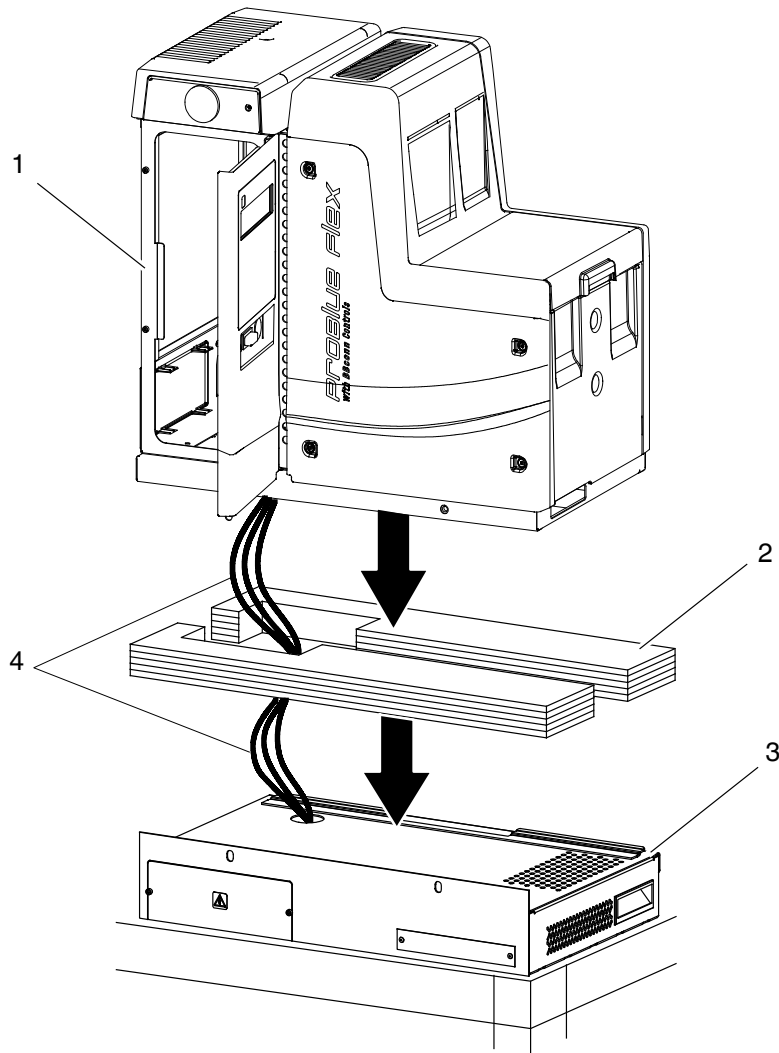

Figure F-13 Mounting the melter to the transformer
1. Position the two side spacers retained from the transformer shipping container on the installed transformer. Maintain the orientation of the notches as shown in Figure F-13.
3. Route cables between the transformer and the ProBlue Flex melter through the two side spacers as shown in Figure F-13.
1. Route one wire harness from the transformer up into the melter's E-Box enclosure as shown in Figure F-13.